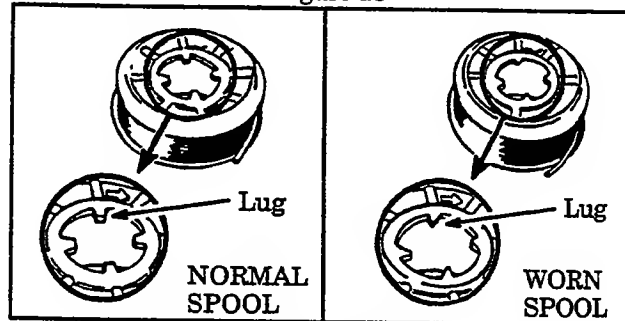

Figure 19
- a. Replace the spool when the square corners on the lugs are rounded off, reduced in size, or broken off. Figure 19.